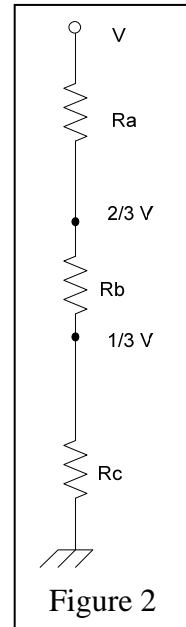

Figure 2
**The resistance ladder or voltage divider.** One common technique to manipulate voltages is to use resistors in series that create the desired voltage drop across each resistor in the series. This is called a voltage divider circuit. In figure 2, three resistors are in series and there is a voltage drop across each resistor that is proportional to the value of the resistor with the total voltage drop across all the resistors in the series equal to the overall voltage applied to the circuit. If the resistors are all equal in value, the voltage drop across each individual resistor will be  $1/3V$ , you might confirm this with a simple Ohms law calculation.